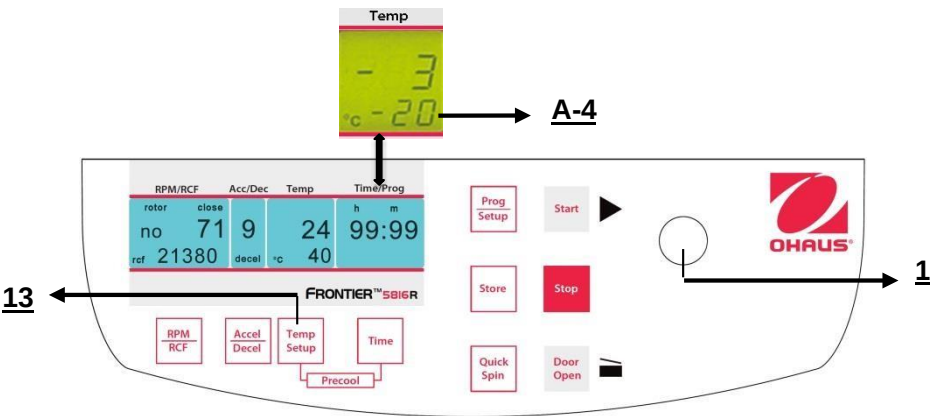

Figure. 22
This function is activated by the key "Temp/Setup" (13). After pressing this key in the display "Time/Prog" the indication "°C" (A-4) flashes. By the adjusting knob (1) the desired test temperature can be pre-selected in steps of 1°C in a range from -20°C up to +40°C. The value is indicated permanently in the display (figure 22) - before, during and after the run. Please notice the respective lowest temperatures of the rotors at maximum speed!